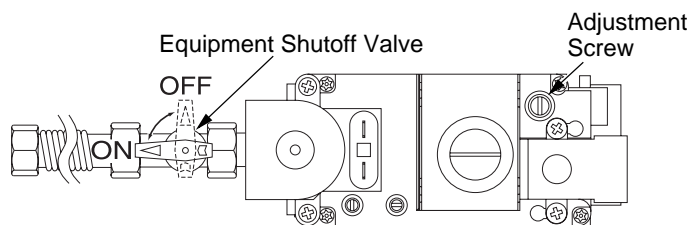

Figure 49 - Turning Equipment Shutoff Valve to the OFF Position
5. Turn equipment shutoff valve clockwise  to the OFF position (see Figure 49). Do not force.
6. Wait five (5) minutes to clear out any gas. Then smell for gas, including near the floor. If you smell gas, STOP! Follow "B" in the safety information above. If you don't smell gas, go to the next step.
- Turn the adjustment screw marked PILOT clockwise to decrease or counterclockwise to increase the flame to proper size (see Figure 49, page 25). Do not remove the adjustment screw.